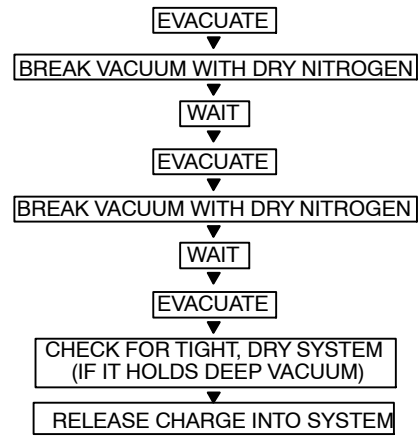

Fig. 20 – Triple Evacuation Method
Refer to Fig. 20 and proceed as follows:
5. Repeat this procedure as indicated in Fig. 20. System will then be free of any contaminants and water vapor.